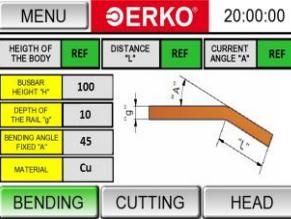

Fig. 12
- Fig. 12 shows the menu for bending rails
In order to enable bending function, go to the menu "BODY", then equip the body with stamp and measuring pad. After installing the stamp the panel will display a window where you will need to define reference points of Encoder (Fig. 12). Follow the procedure set out in section 2.3.1